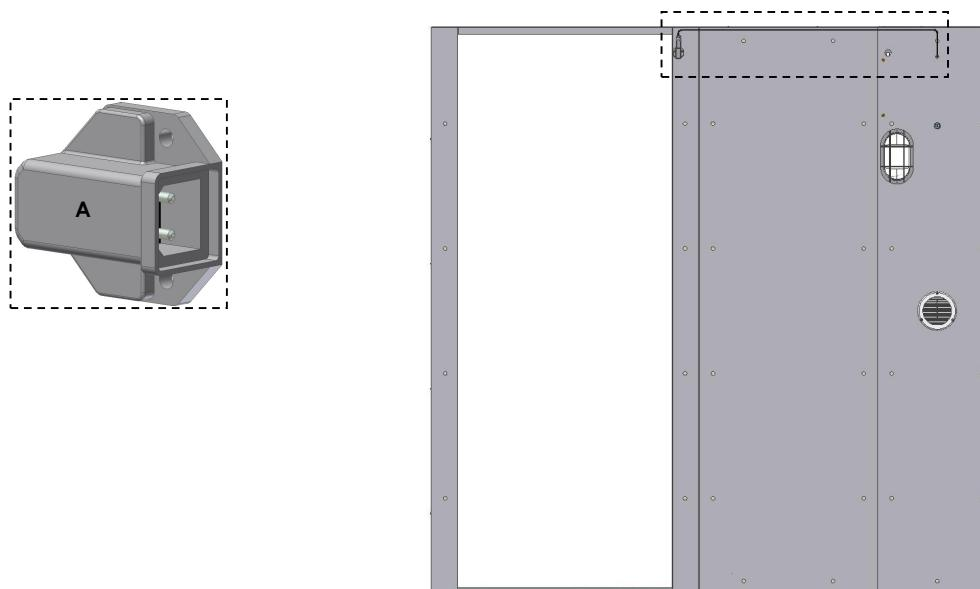

Fig. 1
- Fix the cord that you can find on the cooling unit, spare part A (Fig. 1).